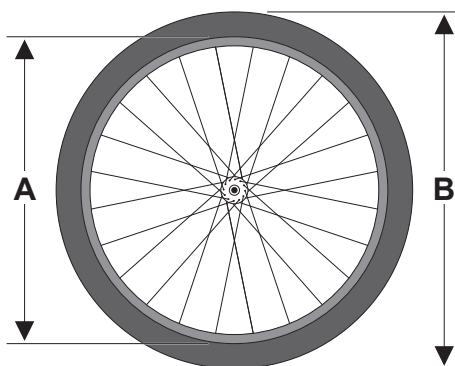
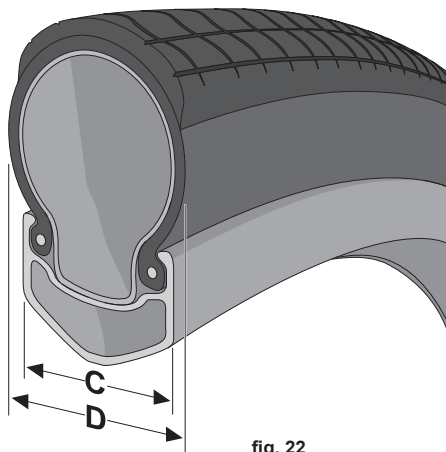

fig. 21
fig. 22
Wheel rims and tires come in a wide range of diameters (fig. 21) and widths (fig. 22). The nominal diameter of the rim (A) must match the nominal diameter of the tire (B), and the width of the rim (C) must be compatible with the width of the tire (D).